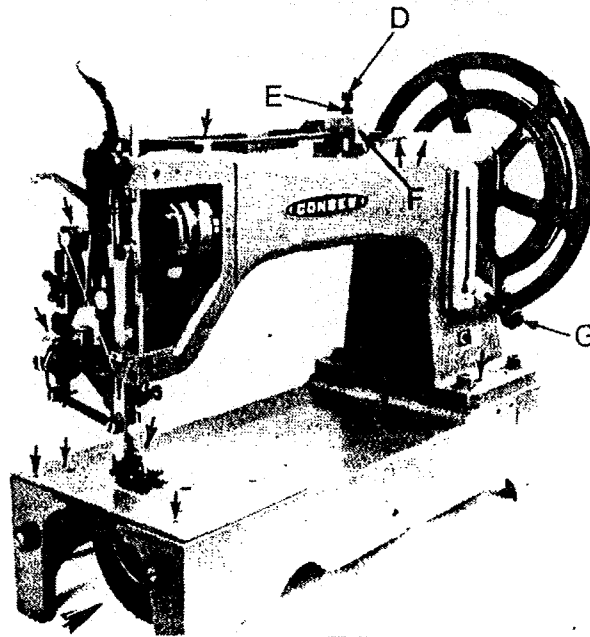

Fig. 10 Oiling Points at Front of Machine
- a. Oiling points are shown in Figures 10 and 11.
The length of stitch is regulated by loosening the serrated nut on the reverse lever G Fig. 10 in the slot on the front of the upright part of the arm. To lengthen the stitch, move the lever downward. To shorten the stitch, move the lever upward and then tighten the nut.
The pressure on the material is regulated by means of the hexagon head screw D, Fig. 10. Loosen the hexagon lock nut, E, F g. 10 and turn the screw 1) to the right to increase the pressure or to the left to decrease the pressure. When the desired pressure has been obtained, hold the screw D with a wrench to keep it from turning while the lock nut (E) is being tightened against the bracket (F).
To insure easy running and prevent unnecessary wear of the machine, oil all parts which are in movable contact. When the machine is in continuous use, oil should be applied frequently. The places where the machine should be oiled are indicated in Figs. 10 and 11 by arrows pointing to the oil holes and bearings. **Important Note:** The oil holes on the machine are indicated by a red circle around the oil hole. Oil should be regularly applied to the shuttle race.